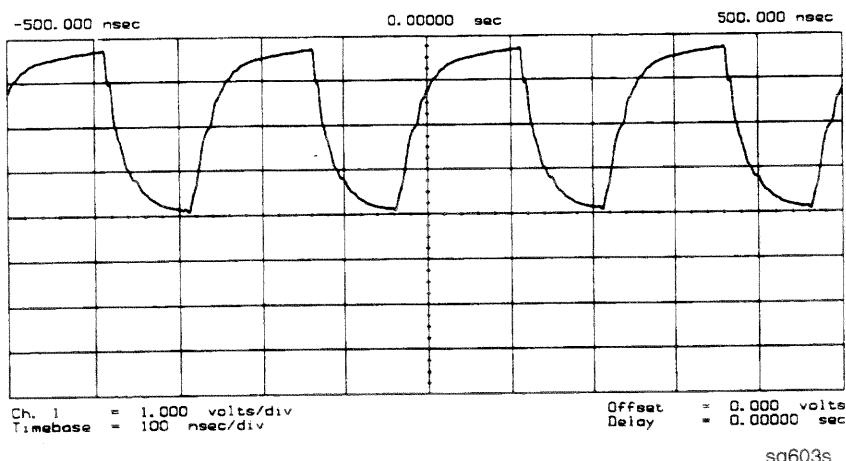

Figure 8-3. 4 MHz REF Waveform
- If the signal does not resemble Figure 8-3, troubleshoot the signal source (A12P2-36) and path.